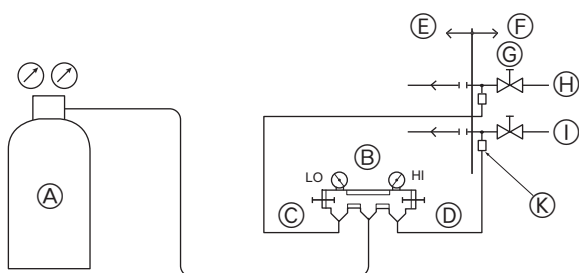

Fig. 5-11
① **Airtight test (Fig. 5-11)**